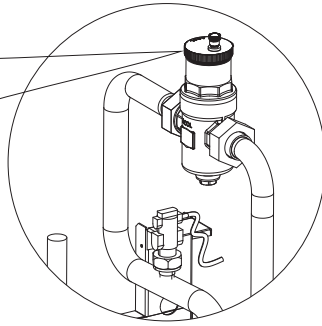

Figure 4-1: Automatic Air Vent
3. The automatic air vent in the heat pump should be open with at least 2 turns from the factory. This should be checked. Remove the top panel and when necessary the right hand panel to access the automatic air vent. Refer to Figure 4-1 and section 1.10. When filling and venting is completed, close this cap.